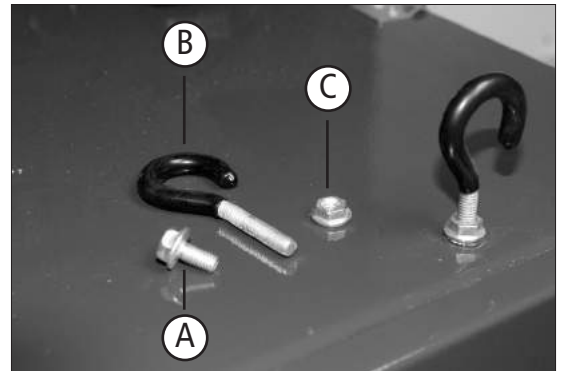

Fig 7.1
2. The air filtration unit can be hung from the ceiling. Remove four screws from cabinet top (**Fig 7.1, A**).
3. Hang the unit using four hook bolts (**Fig 7.1, B**), and four hex nuts (**Fig 7.1, C**) provided.